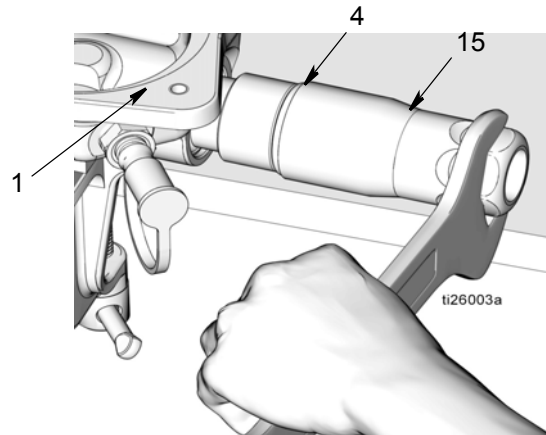

FIG. 22
- e. Discard o-rings (7, 41) and nut (5) according to all regulations for proper disposal
16. Remove the outlet check valve (15) from pump base (1) (FIG. 22). Remove o-ring (4) from outlet check valve. Dispose of o-ring according to all regulations for proper disposal